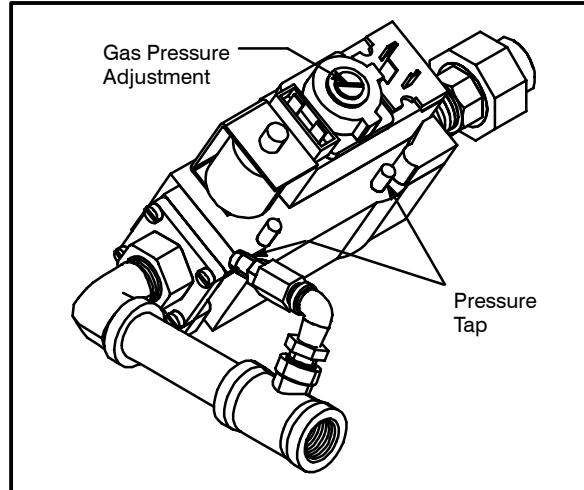

Figure 20
7. Adjust gas pressure if necessary, See Figure 20.